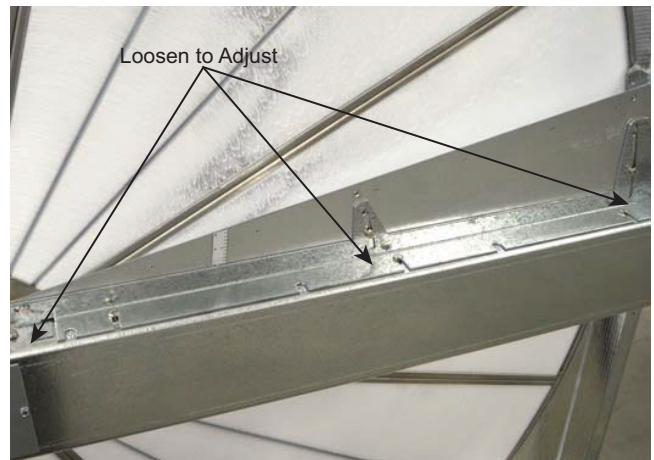

Fig. 28 — Purge Installed On Motor Side Of Wheel
1. Loosen the three purge adjusting screws (Fig. 28).